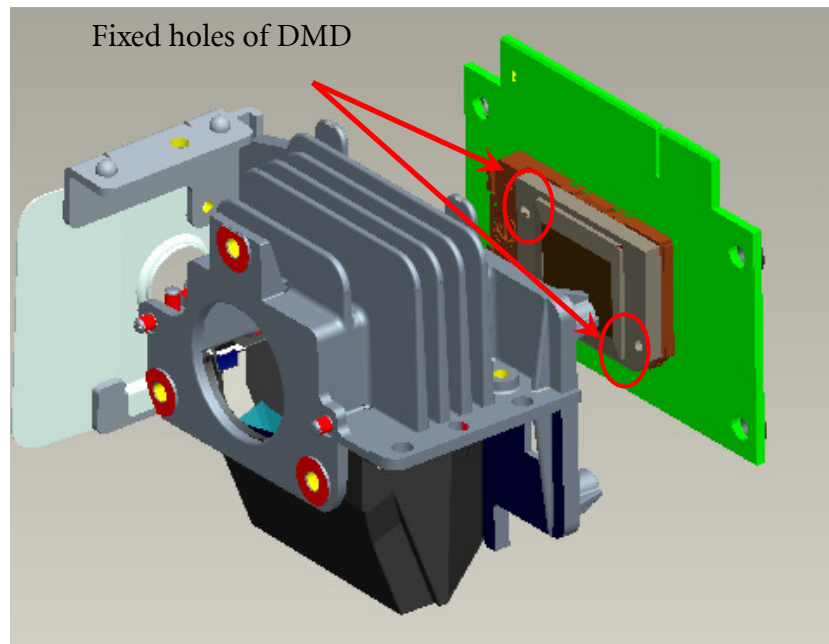

Fig.7-2
7.3 Assemble Chip B/D Module to “HSG DMD” (Fig. 7-2).